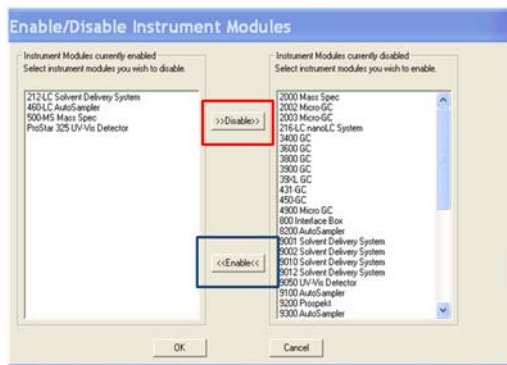

Figure 18 Enable/Disable Instrument Modules dialog box
- 2 Right-click the right side of the toolbar, then in the shortcut menu, select **Enable/Disable Instrument Modules**. See Figure 18.